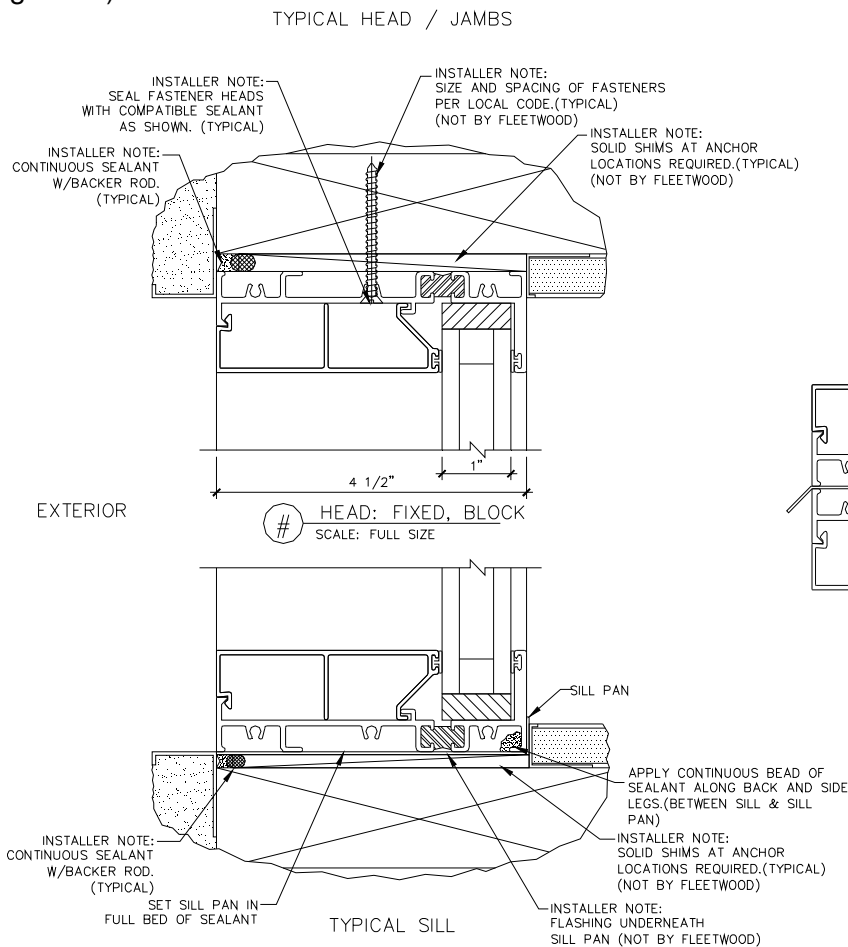

Figure 12:
3. Insert the frame into the opening and set the sill in a full bed of sealant (Figure 12). Cross-measure and adjust as necessary to achieve a plumb square and level condition, as well as an even reveal around the framed opening. Shim with non-porous, non-absorbent, inorganic shims where needed. Seal all fastener heads with compatible sealant. (Only drill holes through Sill as required for design load)